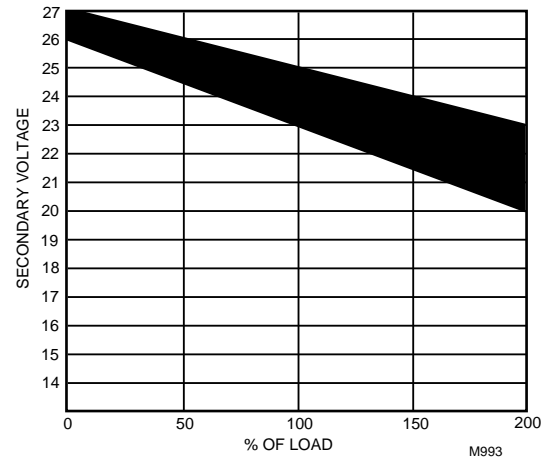

Fig. 54. NEMA class 2 transformer voltage output limits.
This means that four volts are going to be lost between the transformer and the controller; therefore, to assure the controller receives at least 20 volts, the transformer must output more than 24 volts. Because all transformer output voltage levels depend on the size of the connected load, a larger transformer outputs a higher voltage than a smaller one for a given load. Fig. 54 shows this voltage load dependence.
In the preceding $I \times R$ loss example, even though the controller load is only 37 VA, a standard 40 VA transformer is not sufficient due to the line loss. From Fig. 54, a 40 VA transformer is just under 100 percent loaded (for the 37 VA controller) and, therefore, has a secondary voltage of 22.9 volts. (Use the lower edge of the shaded zone in Fig. 54 that represents the worst case conditions.) When the $I \times R$ loss of four volts is subtracted, only 18.9 volts reaches the controller, which is not enough voltage for proper operation.
1. Use a larger transformer; for example, if an 80 VA model is used, see Fig. 54, an output of 24.4 volts minus the four volt line loss supplies 20.4V to the controller. Although acceptable, the four-volt line-loss in this example is higher than recommended. See the following **IMPORTANT**.
To meet the National Electrical Manufacturers Association (NEMA) standards, a transformer must stay within the NEMA limits. The chart in Fig. 54 shows the required limits at various loads.